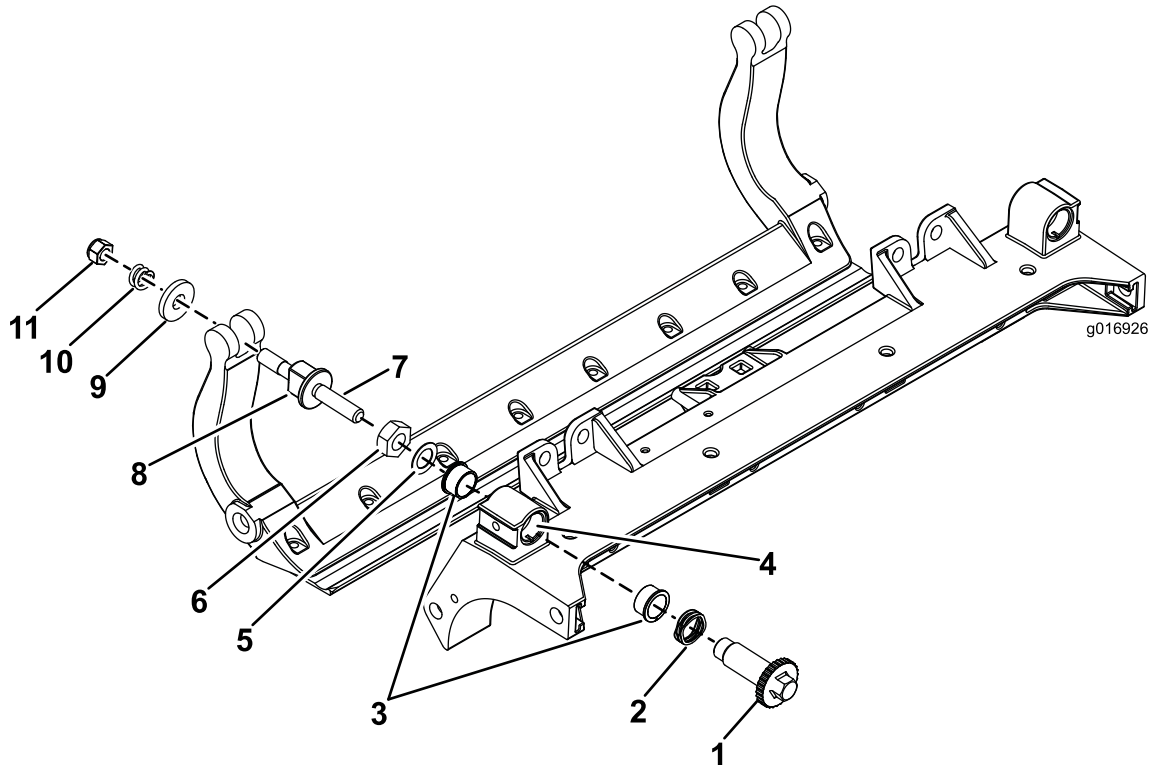

Figure 33
1. Remove all parts (refer to the *Installation Instructions* for the HD DPA Kit (Model No. 120-7230) and to Figure 33).
2. Apply anti-seize compound to the inside of the bushing area on the carrier frame of the cutting unit (Figure 33).
3. Align the keys on flange bushings to the slots in the frame and install the bushings (Figure 33).
4. Install a wave washer onto the adjuster shaft and slide the adjuster shaft into the flange bushings in the cutting unit frame (Figure 33).
5. Secure the adjuster shaft with a flat washer and lock nut (Figure 33). Torque the lock nut to 20 to 27 N-m (15 to 20 ft-lb).
Note: Position a nylon washer on each side of the side plate boss. Place a steel washer outside each of the nylon washers (Figure 33).